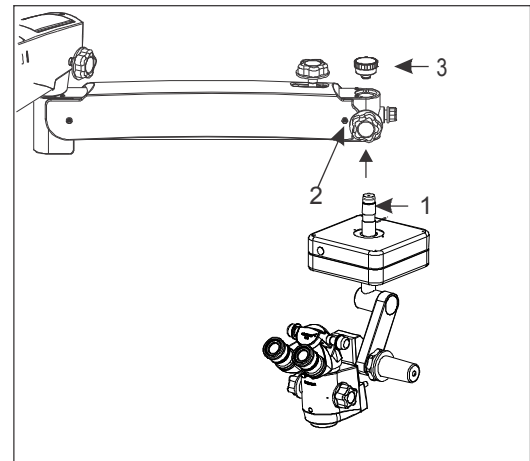

Fig. 5
7.4 Retrieve the XY or Z- axis coupling assembly(as ordered) from the packing and follow as below refer Fig. 5.
- Install the coupling to the suspension arm by sliding the guiding shaft (1) to the suspension arm.
- Lock the inclined coupling with the threaded plug (3).